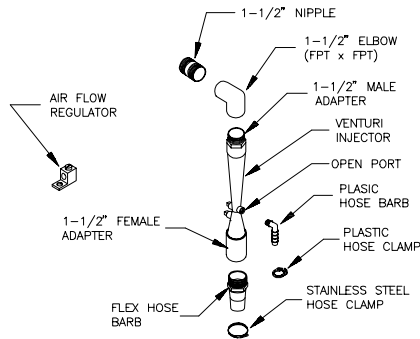

Figure 2: 9-0513 Injector Assembly
3. Screw **1-1/2" nipple** loosely into **1-1/2" elbow**, then screw this assembly into the pool's **1-1/2" eye ball fitting** stopping when tight and elbow is pointed down (Figure 2).